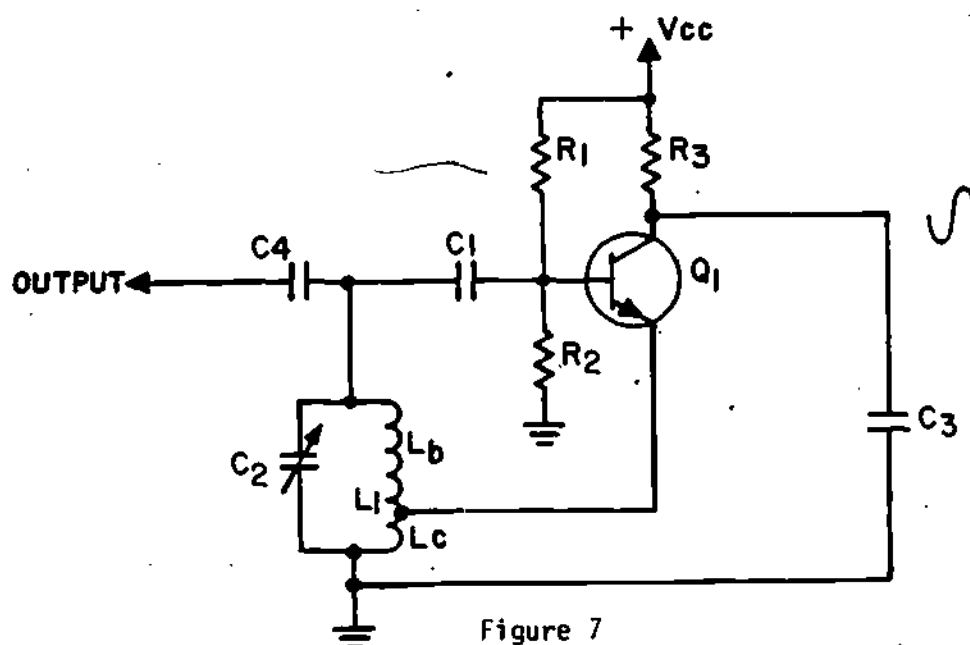

Figure 7
13. Recall that one of the characteristics of all oscillators is that they have a working amplifier circuit and that the amplifier must be forward biased in order to provide amplification. The schematic shown in Figure 7 is that of a series-fed Hartley oscillator circuit.
14. Refer again to the schematic shown in Figure 7. The tank has been shocked into oscillation by the induction action of L_c and L_b . Once the tank begins to oscillate the voltage at the top of the tank swings in a negative direction. This reduces the forward bias on $Q1$ and the magnetic field around the inductance $L1$. The exchange of energy between the tank coil and capacitor produces a sine wave voltage across the tank. This provides a positive regenerative feedback signal to the base of the transistor which is in phase with the tank signal. As a result of this, the tank oscillations are reinforced. As you recall, once oscillation begins, it continues as long as sufficient regenerative feedback is provided to compensate for losses in the oscillator.